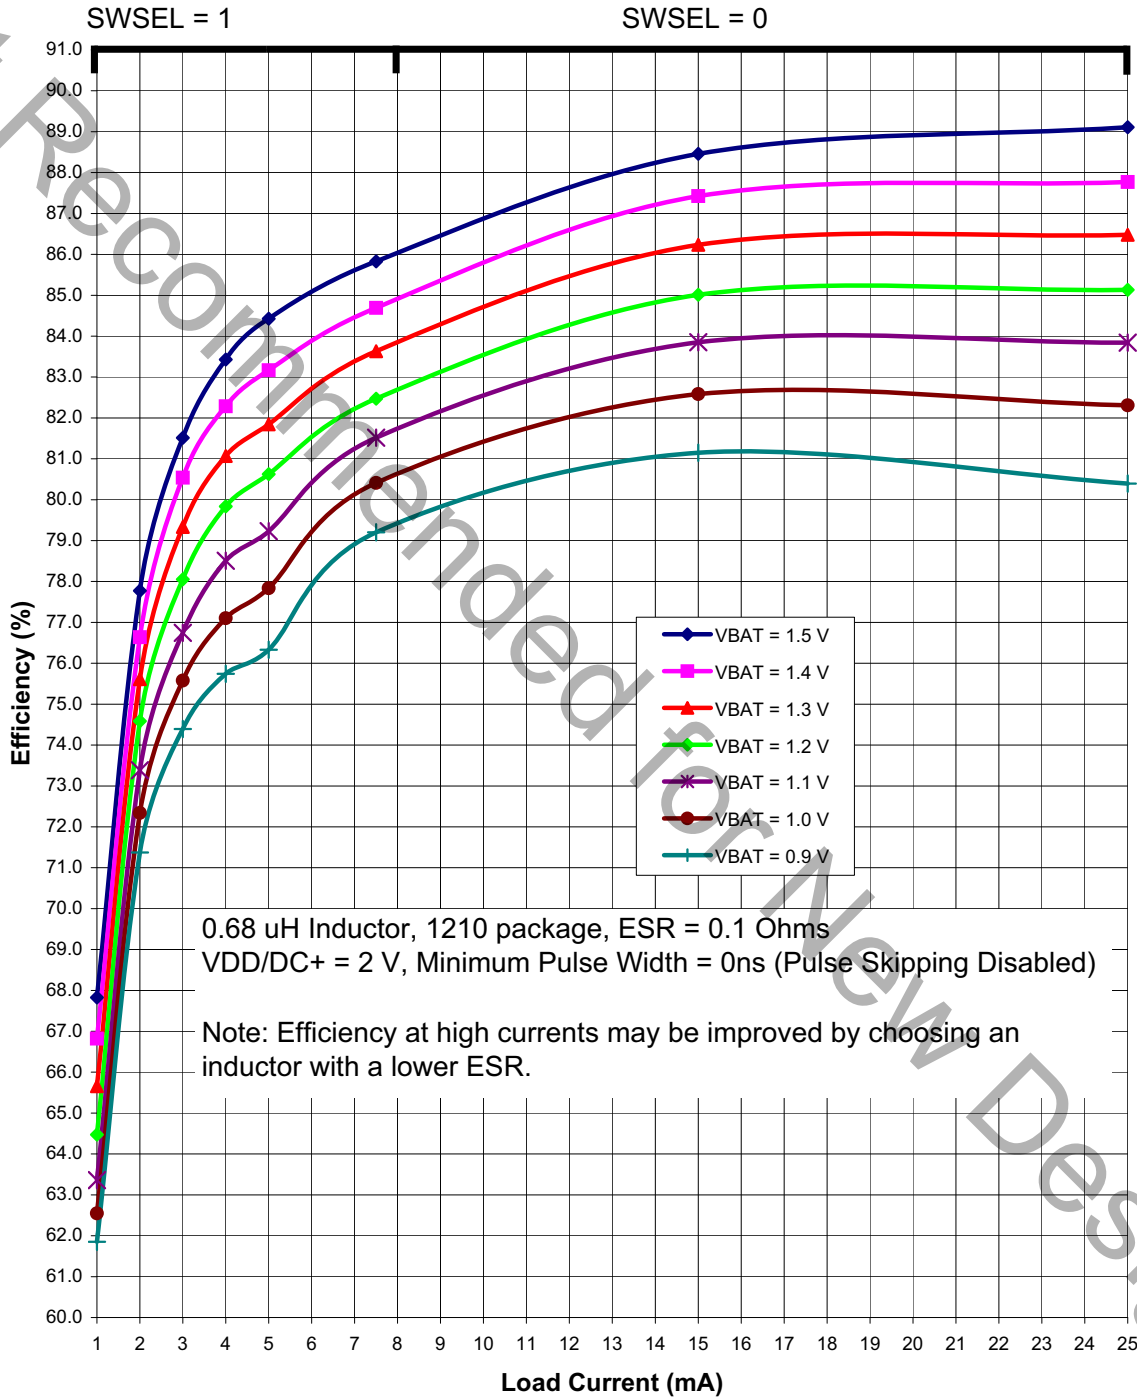
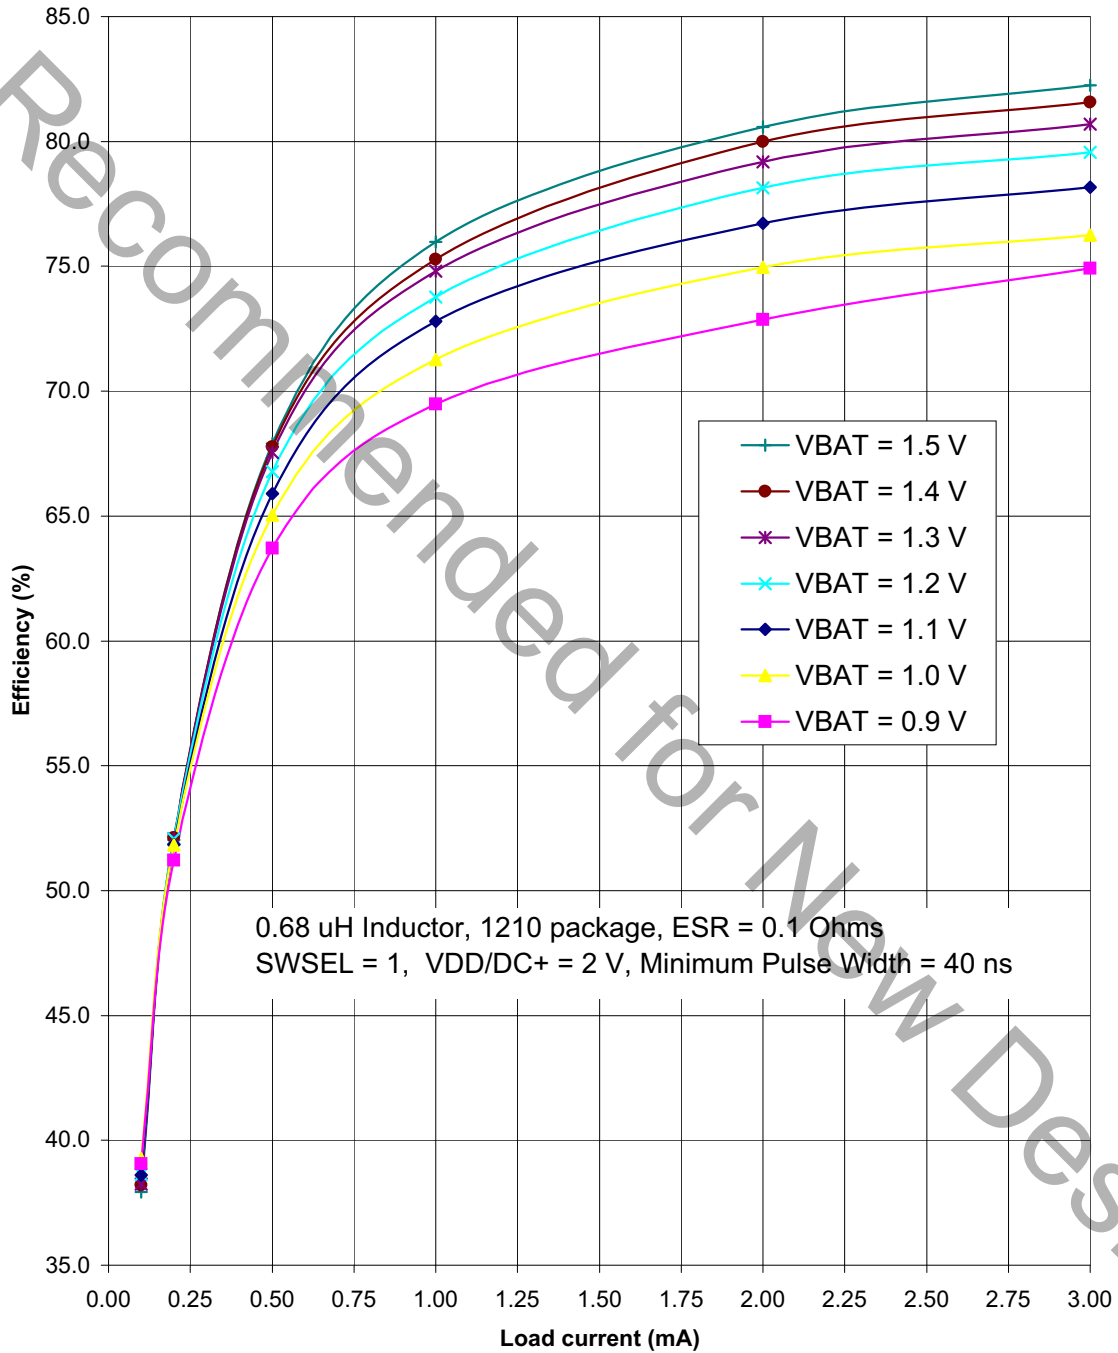

Figure 4.3. Typical DC-DC Converter Efficiency (High Current, VDD/DC+ = 2 V)
Figure 4.5. Typical DC-DC Converter Efficiency (Low Current, VDD/DC+ = 2 V)
Notes: <ol style="list-style-type: none"> Based on device characterization data; Not production tested. SYSCCLK must be at least 32 kHz to enable debugging. Digital Supply Current depends upon the particular code being executed. The values in this table are obtained with the CPU executing an "sjmp \$" loop, which is the compiled form of a while(1) loop in C. One iteration requires 3 CPU clock cycles, and the flash memory is read on each cycle. The supply current will vary slightly based on the physical location of the sjmp instruction and the number of flash address lines that toggle as a result. In the worst case, current can increase by up to 30% if the sjmp loop straddles a 128-byte flash address boundary (e.g., 0x007F to 0x0080). Real-world code with larger loops and longer linear sequences will have few transitions across the 128-byte address boundaries. Includes oscillator and regulator supply current. IDD can be estimated for frequencies ≤ 10 MHz by simply multiplying the frequency of interest by the frequency sensitivity number for that range, then adding an offset of 90 μA. When using these numbers to estimate I_{DD} for >10 MHz, the estimate should be the current at 25 MHz minus the difference in current indicated by the frequency sensitivity number. For example: $V_{DD} = 3.0$ V; $F = 20$ MHz, $I_{DD} = 4.1$ mA – $(25 \text{ MHz} - 20 \text{ MHz}) \times 0.120 \text{ mA/MHz} = 3.5$ mA. The Supply Voltage is the voltage at the VDD_MCU pin, typically 1.8 to 3.6 V (default = 1.9 V). Idle IDD can be estimated by taking the current at 25 MHz minus the difference in current indicated by the frequency sensitivity number. For example: $V_{DD} = 3.0$ V; $F = 5$ MHz, Idle $I_{DD} = 2.5$ mA – $(25 \text{ MHz} - 5 \text{ MHz}) \times 0.095 \text{ mA/MHz} = 0.6$ mA. The supply current specifications in Table 4.2 are for two cell mode. The VBAT current in one-cell mode can be estimated using the following equation: $\text{VBAT Current (one-cell mode)} = \frac{\text{Supply Voltage} \times \text{Supply Current (two-cell mode)}}{\text{DC-DC Converter Efficiency} \times \text{VBAT Voltage}}$ <p>The VBAT Voltage is the voltage at the VBAT pin, typically 0.9 to 1.8 V. The Supply Current (two-cell mode) is the data sheet specification for supply current. The Supply Voltage is the voltage at the VDD/DC+ pin, typically 1.8 to 3.3 V (default = 1.9 V). The DC-DC Converter Efficiency can be estimated using Figure 4.3–Figure 4.5.</p> The radio peripheral is placed in Shutdown mode.